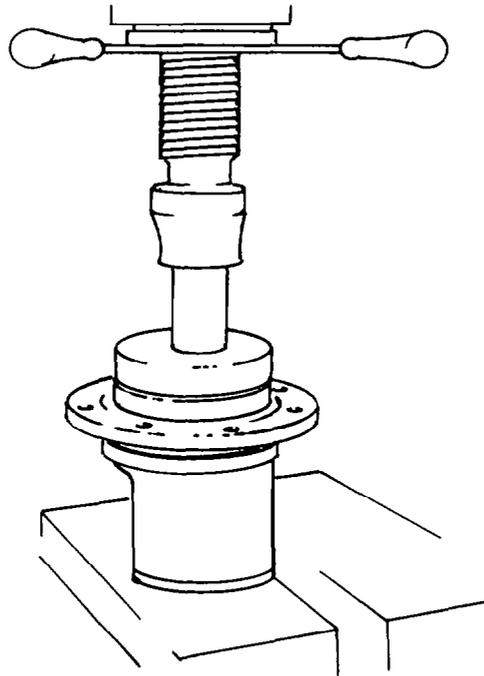

Fig. 312 — Installing Left-hand Bearing Cup
- a. Using a hydraulic press install the left-hand bearing cup into the bearing retainer housing (see fig. 312).